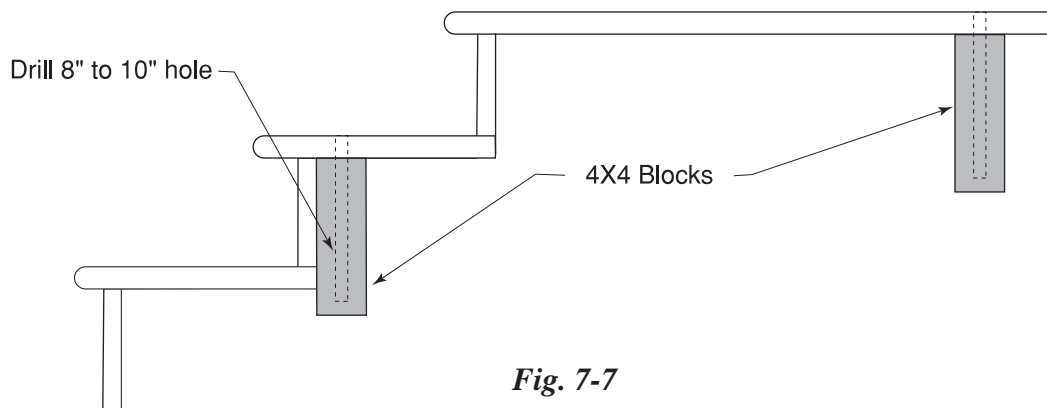

Fig. 7-7
4. When drilling the treads or landing tread, drill the holes 6- to 8-inches deep in those areas with extra blocking. Please note Fig. 7-7 here.